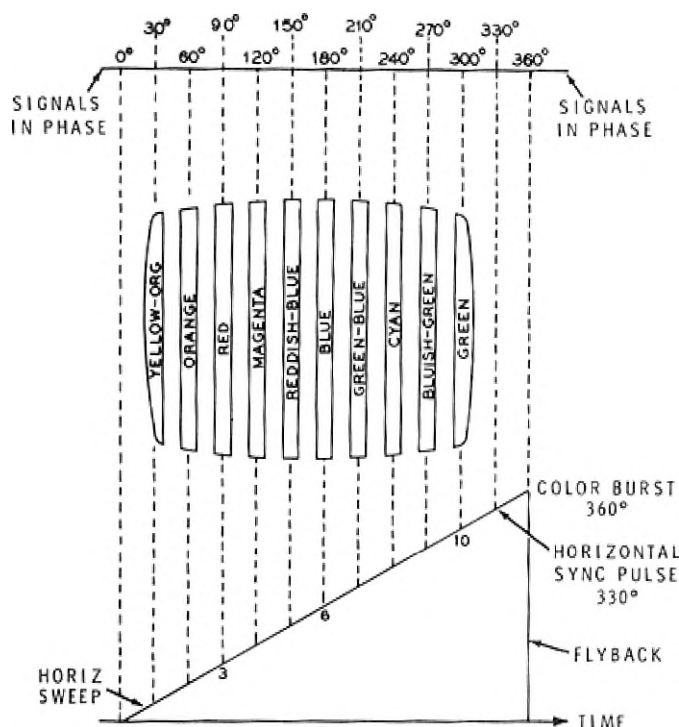

Figure 16
**COLOR BAR.** A color signal is required to trigger and synchronize the color oscillator in a television receiver. This color signal is produced by an oscillator circuit in the Generator which is adjusted to one horizontal line frequency below the color oscillator of the receiver. Thus, the two signals are in phase once during each horizontal blanking pulse, but are out of phase during each horizontal scanning line. See Figure 16. This slow change in phase difference produces an even blending rainbow of colors on the television screen. The rainbow is divided into color bars as the color bar blanker is keyed on and off. The eleventh and twelfth bars are blanked out by the horizontal blanking pulse.